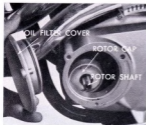

Fig. 42
1. Remove oil filter cover. Take out screw and remove rotor cap. (Fig. 42)